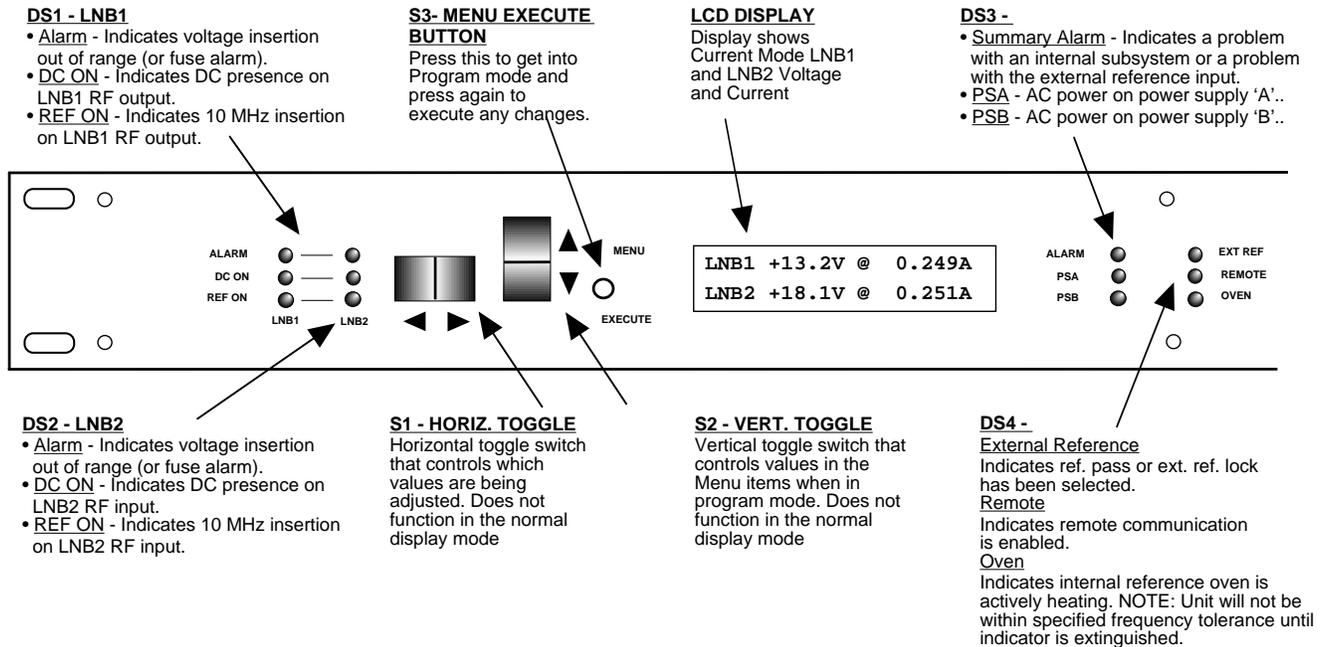
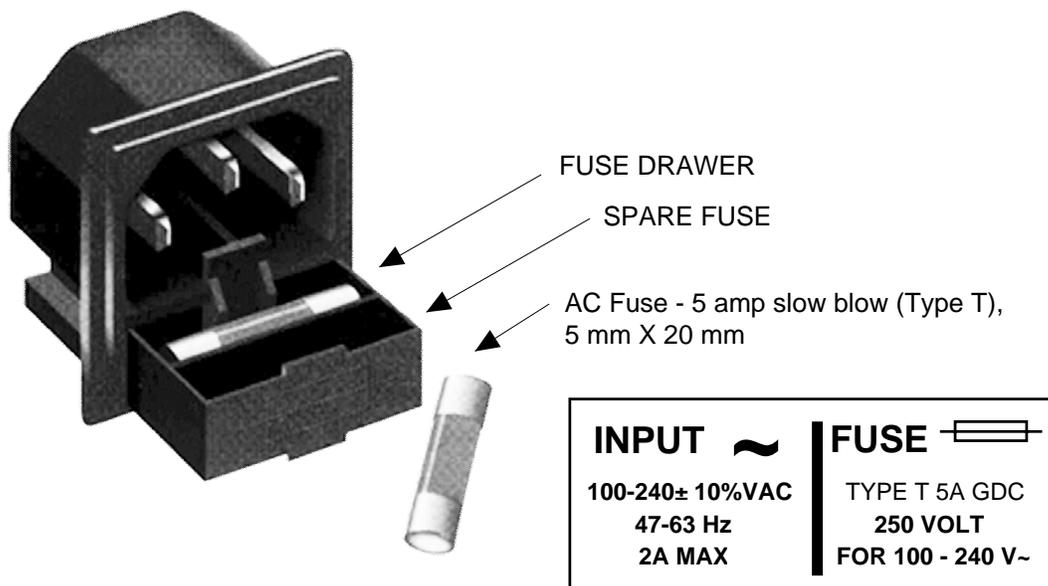

FIGURE 2.2 2099-1318 Front Panel Controls and Indicators
FIGURE 2.3 Fuse Location and Spare Fuse
3. Be sure PSA and PSB LEDs (green, POWER) are on (Figure 2.2).
6. (Option -E only) Choose one of the five (5) modes (Internal, Ext Pass, Ext Pass Auto, Ext Lock, or Ext Lock Auto) in which to operate the unit.
7. AC FUSE - The fuse is a 5 mm X 20 mm, 2 amp slow blow (Type T) and is inserted in the far slot in the drawer below the AC input as shown in Figure 2.3. There is a spare fuse in the near slot. If a fuse continues to open, the power supply is most likely defective.
8. AC FUSE - The fuse is a 5 mm X 20 mm, 2 amp slow blow (Type T) and is inserted in the far slot in the drawer below the AC input as shown in Figure 2.3. There is a spare fuse in the near slot. If a fuse continues to open, the power supply is most likely defective.
Alarm indications appear on the LED (see Figure 2.2).